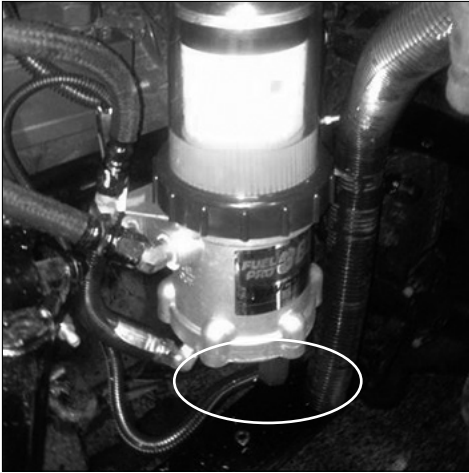

Figure 6: Disconnect Return Fuel Line
**Step 1:** Disconnect the return fuel lines at the heater base on the bottom of the Fuel Pro 382/383 (Figure 6).